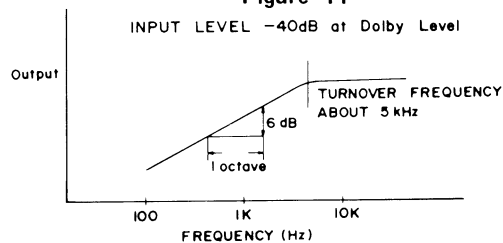
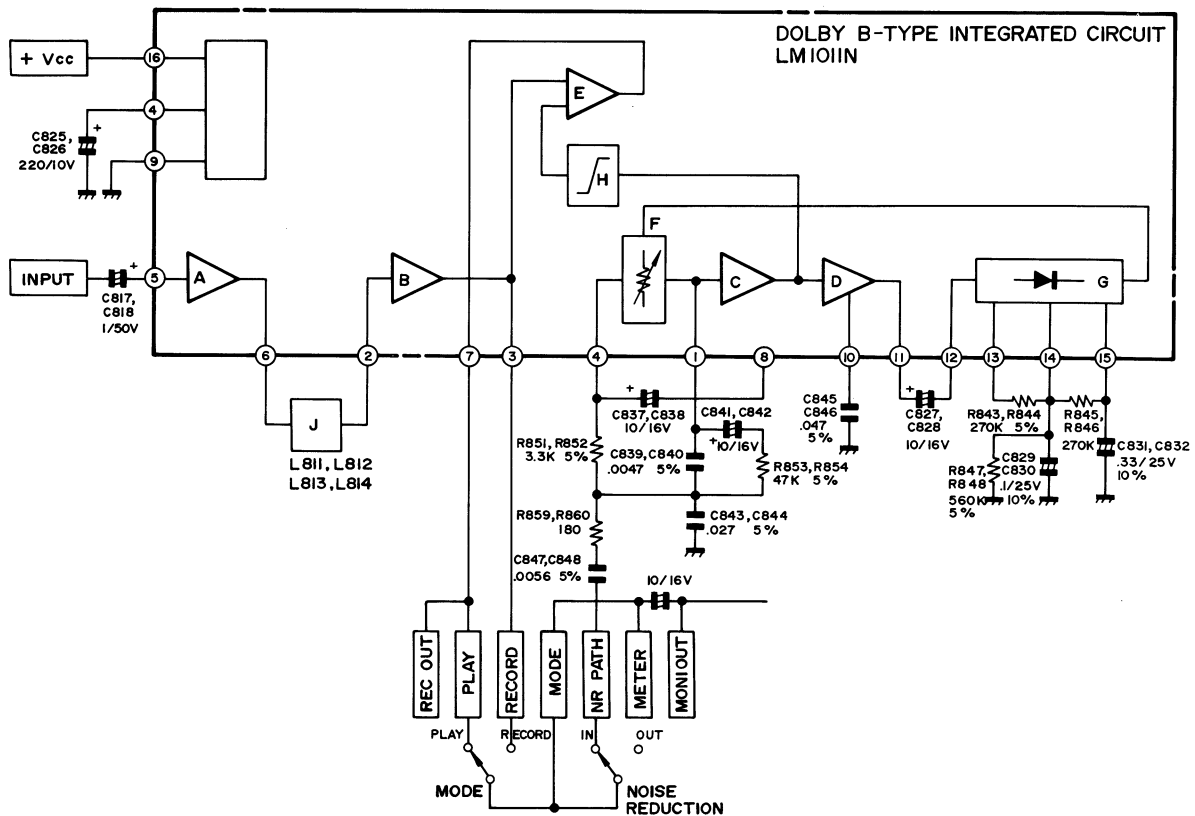

Figure 12
Figure 15
The frequency characteristic is as shown in Fig. 12 and it is the same as that of the high-pass filter of 6 dB/octave. The turnover frequency of the curve also varies according to the change of input level.
The characteristic of the high-pass filter of 6 dB/octave shown in Fig. 15 is obtained by that the composite impedances with C847 (848), C843 (844), C839 (840), R859 (860), R851 (852) and R853 (854), and the filter impedance are added to the each other to form an attenuator. The input/output characteristic in Fig. 12 is obtained by that DC voltage in proportion to the input is fed back to the attenuator (F). The circuit (C) increases the output of the attenuator to the specified voltage to supply the output to the Dolby Summing Circuit. The circuit (D, G) generates DC voltage and it also controls attack time and recovery time of the limiter.